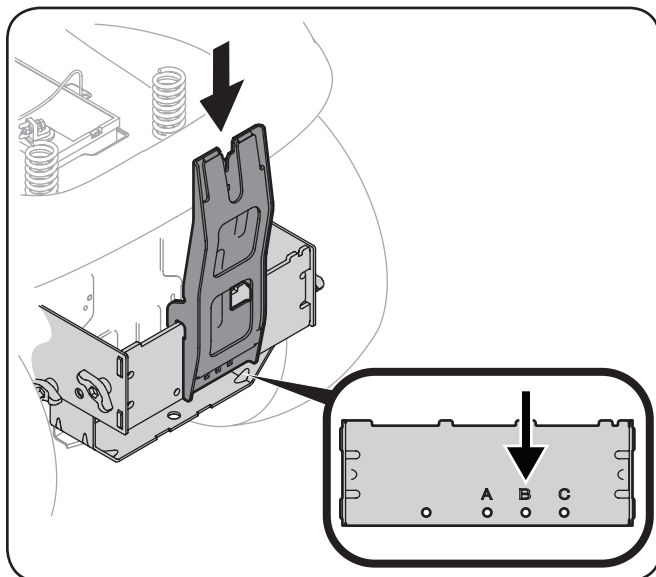

Figure 4-9
1. Install the upright support bracket onto the mounting assembly on the tractor by hooking it over the cross mounting bracket. See Figure 4-9.